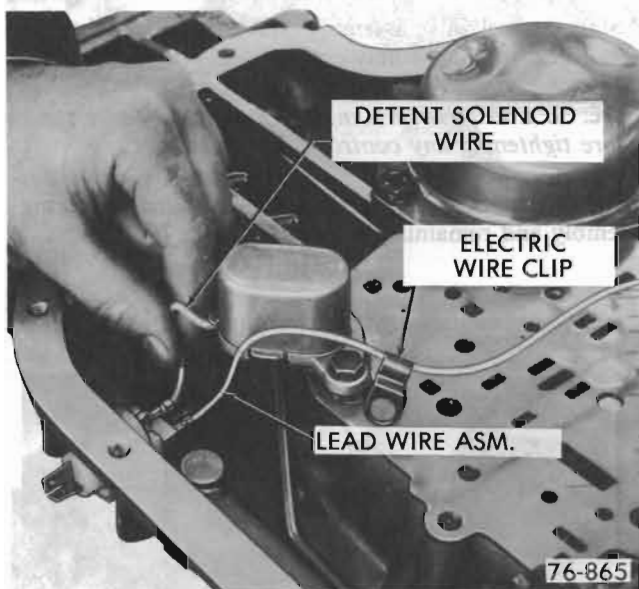

Figure 76-270
12. Install detent wire and lead wire to case connector. See Figure 76-270.
**NOTE:** Check by pulling on detent connector wire. If detent connector wire can be removed, turn wire connector over and reinstall into connector. See Figure 76-270.